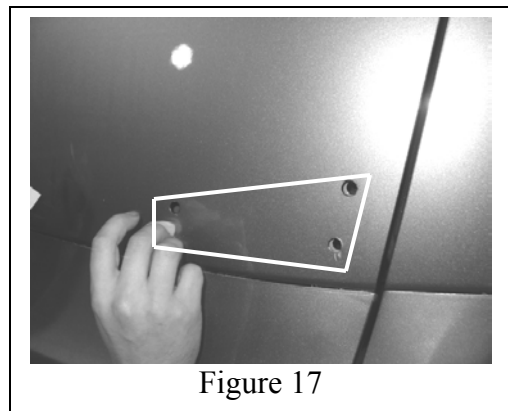

Figure 17
19. Apply adhesive promoter to the top of the deck lid around both sets of four holes. Follow the pattern in Figure 17 (Figure 17 shows the four holes on the passenger side of the deck lid). Make sure the pattern of adhesive promoter matches the pattern of tape around the base of the studs on the wing.